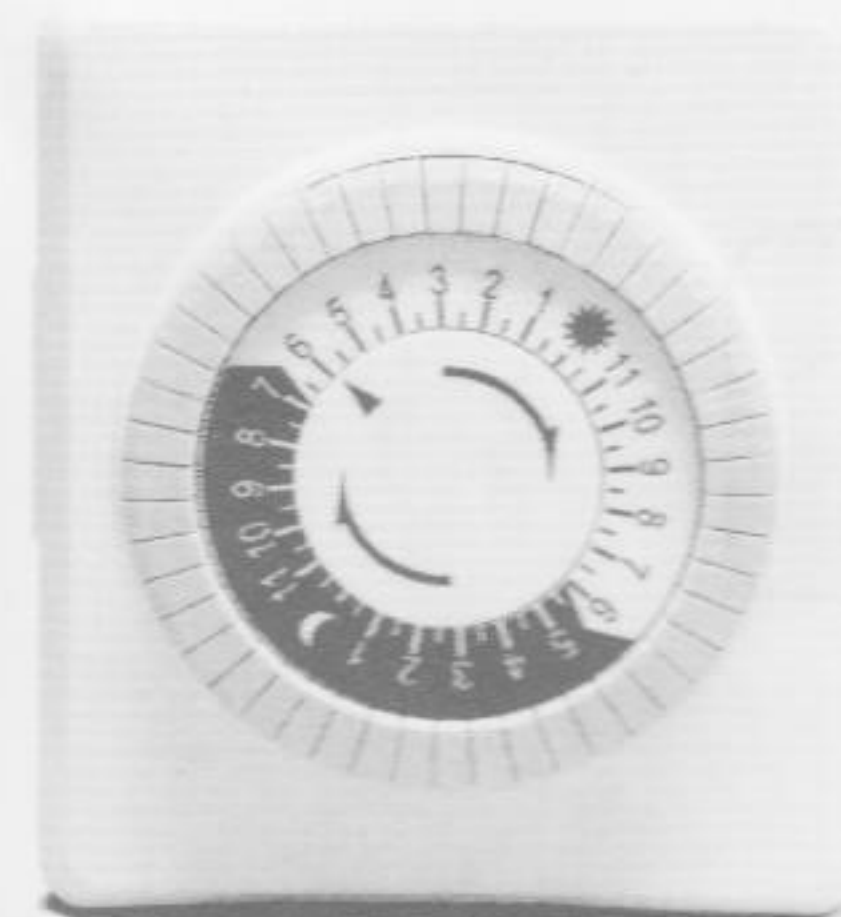

fig. 1
Step 1: Turn the dial clockwise to have the arrow point to current local time (see fig. 1)